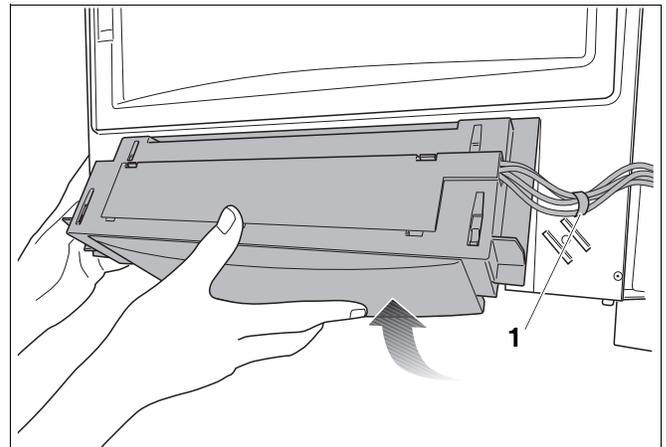

Fig. 97 Removing the control panel
- Loosen the cable tie (fig. 97, pos. 1).
- Remove the control panel (fig. 97).